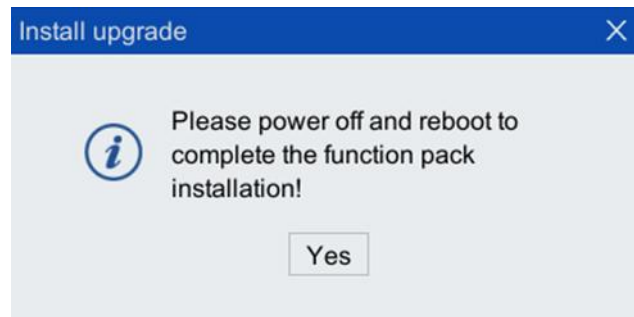

Figure 2-6 Install upgrade dialog box
Step8. After the progress bar is updated, the [install and upgrade] dialog box shown in Figure 2-6 will pop up, and click <Yes>. At this time, power off and restart the equipment to complete the package upgrade.